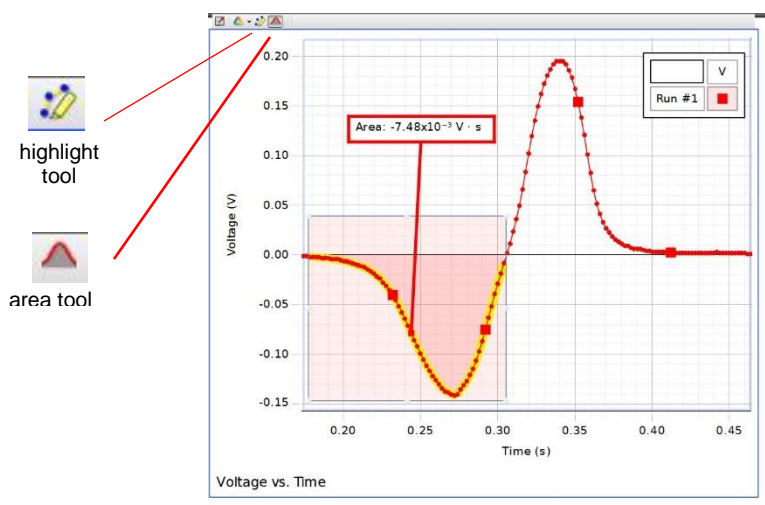

Figure 13
- Click on the graph. Now click the **Area** tool located above the graph window. The area listed in the information box is the *total* area under the graph, including both the *negative* and *positive* peaks. We would like to measure the area under each peak separately. Click the Selection tool above the graph. Drag the selection box to the first peak. Resize it by dragging the corners of the selection box so that only the first peak is selected. Your graph should resemble that shown in Figure 13. This area represents the change in magnetic flux for the first peak. Record this area in Table A on your data sheet.